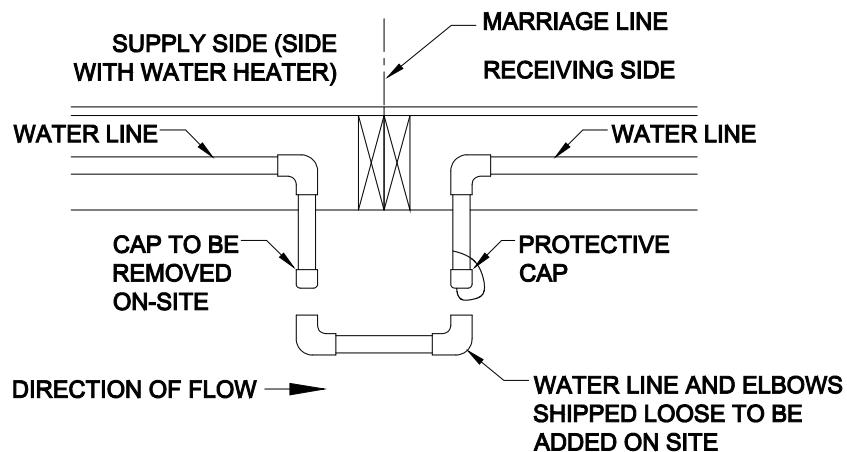

Figure 45. Water line crossover through bottom board
2. **Connect pipes.** Connect threaded water lines using flexible pipe or a rigid connector line (if provided) and connector fittings (do not use lubricants or sealants) (Figure 45).